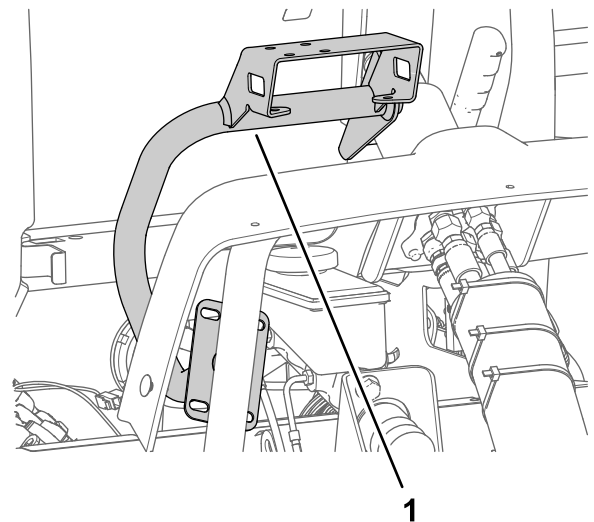

Figure 170
1. Align the monitor mount to the machine as shown in Figure 170.